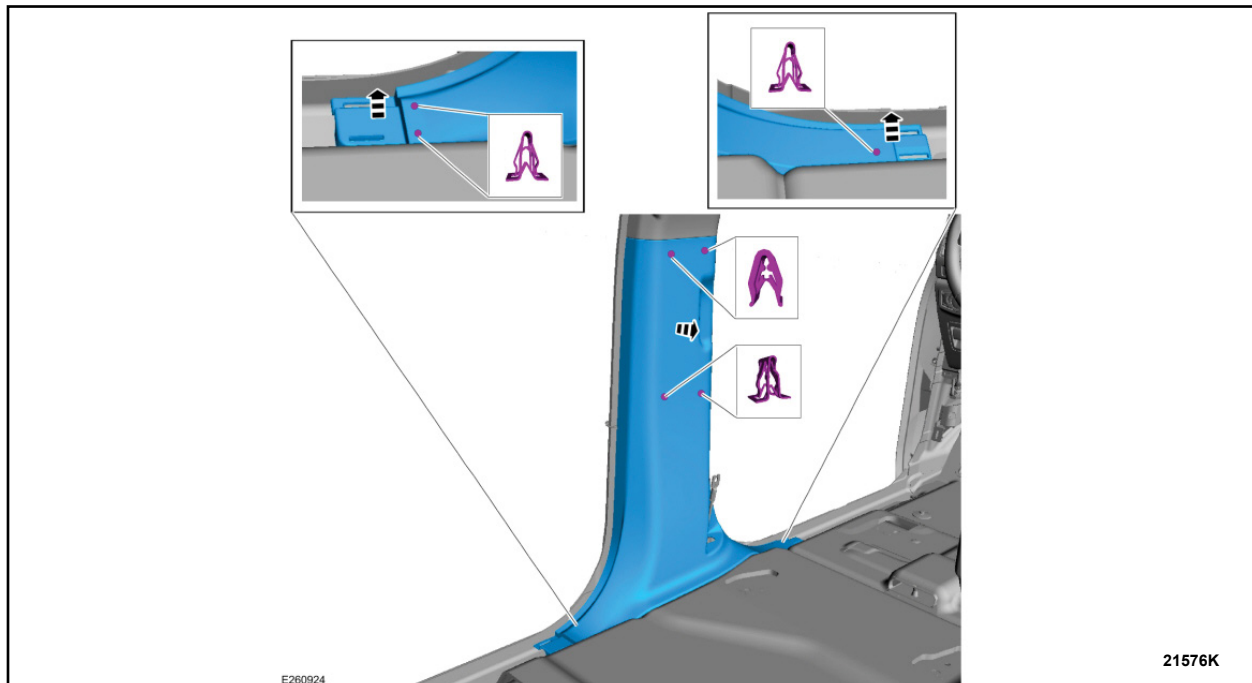

FIGURE 10
10. Release the clips and remove the lower B-pillar trim panel. See Figure 10.